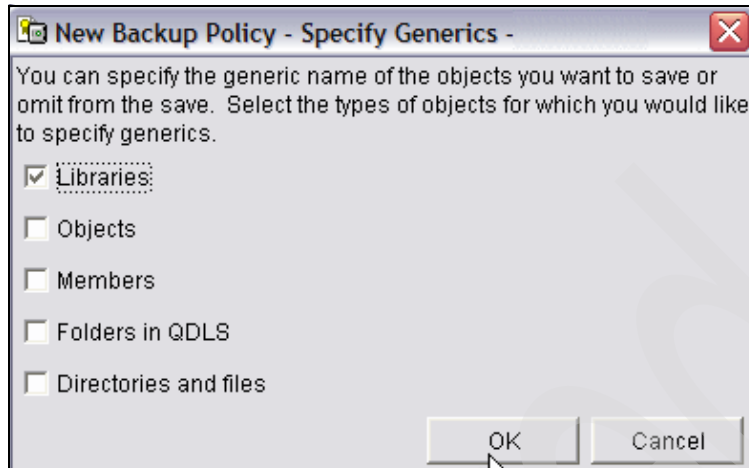

Figure 7-19 BRMS backup policy - specifying generics
6. Under the generics shown in Figure 7-19 on page 351, select **Libraries** and click **OK**.